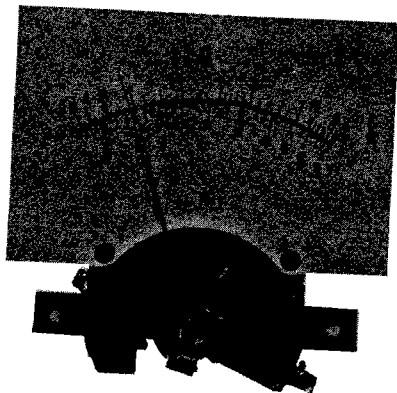

Figure 3-1. Ohmmeter Scale
c. OHMMETER. — See figure 3-1. The ohmmeter is of the permanent-magnet, cross-coil and pointer type with scale lengths of about 2-7/16 inches. It is calibrated to within  $\pm 2.5$  percent of scale length for normal service. Ohmmeter scale calibrations are unaffected by generator speed within limits of 150-170 RPM.